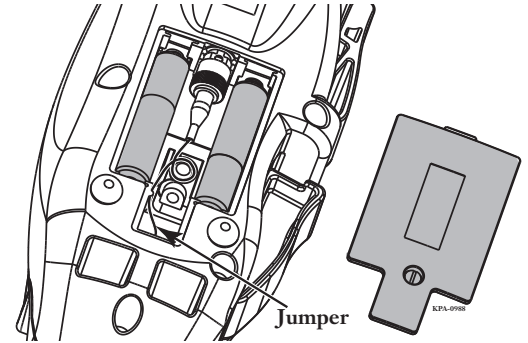

Figure 51 — Replace Batteries
Step 2: Locate the battery cover on the bottom of the tool (Figure 51).